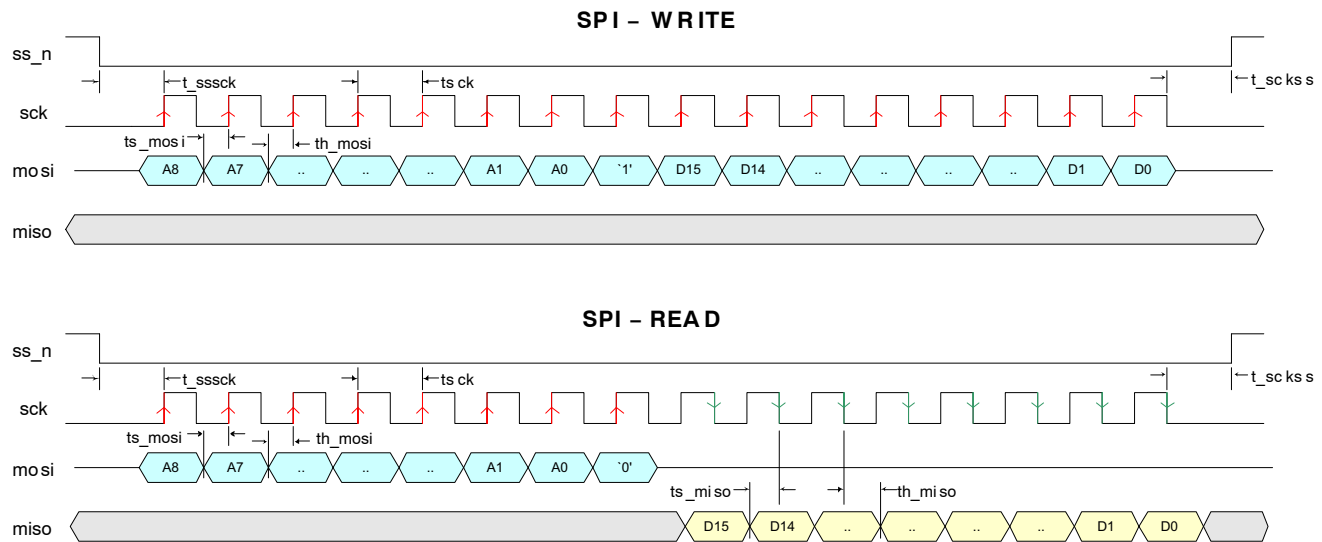

Figure 16. SPI Read and Write Timing Diagram
Figure 16 shows the communication protocol for read and write accesses of the SPI registers. The VITA 2000 sensor uses 9-bit addresses and 16-bit data words.
Data driven by the system is colored blue in Figure 16, while data driven by the sensor is colored yellow. The data in grey indicates high-Z periods on the miso interface. Red markers indicate sampling points for the sensor (mosi sampling); green markers indicate sampling points for the system (miso sampling during read operations).
2. One SPI clock cycle after selecting the sensor, the 9-bit data is transferred, most significant bit first. The sck clock is passed through to the sensor as indicated in Figure 16. The sensor samples this